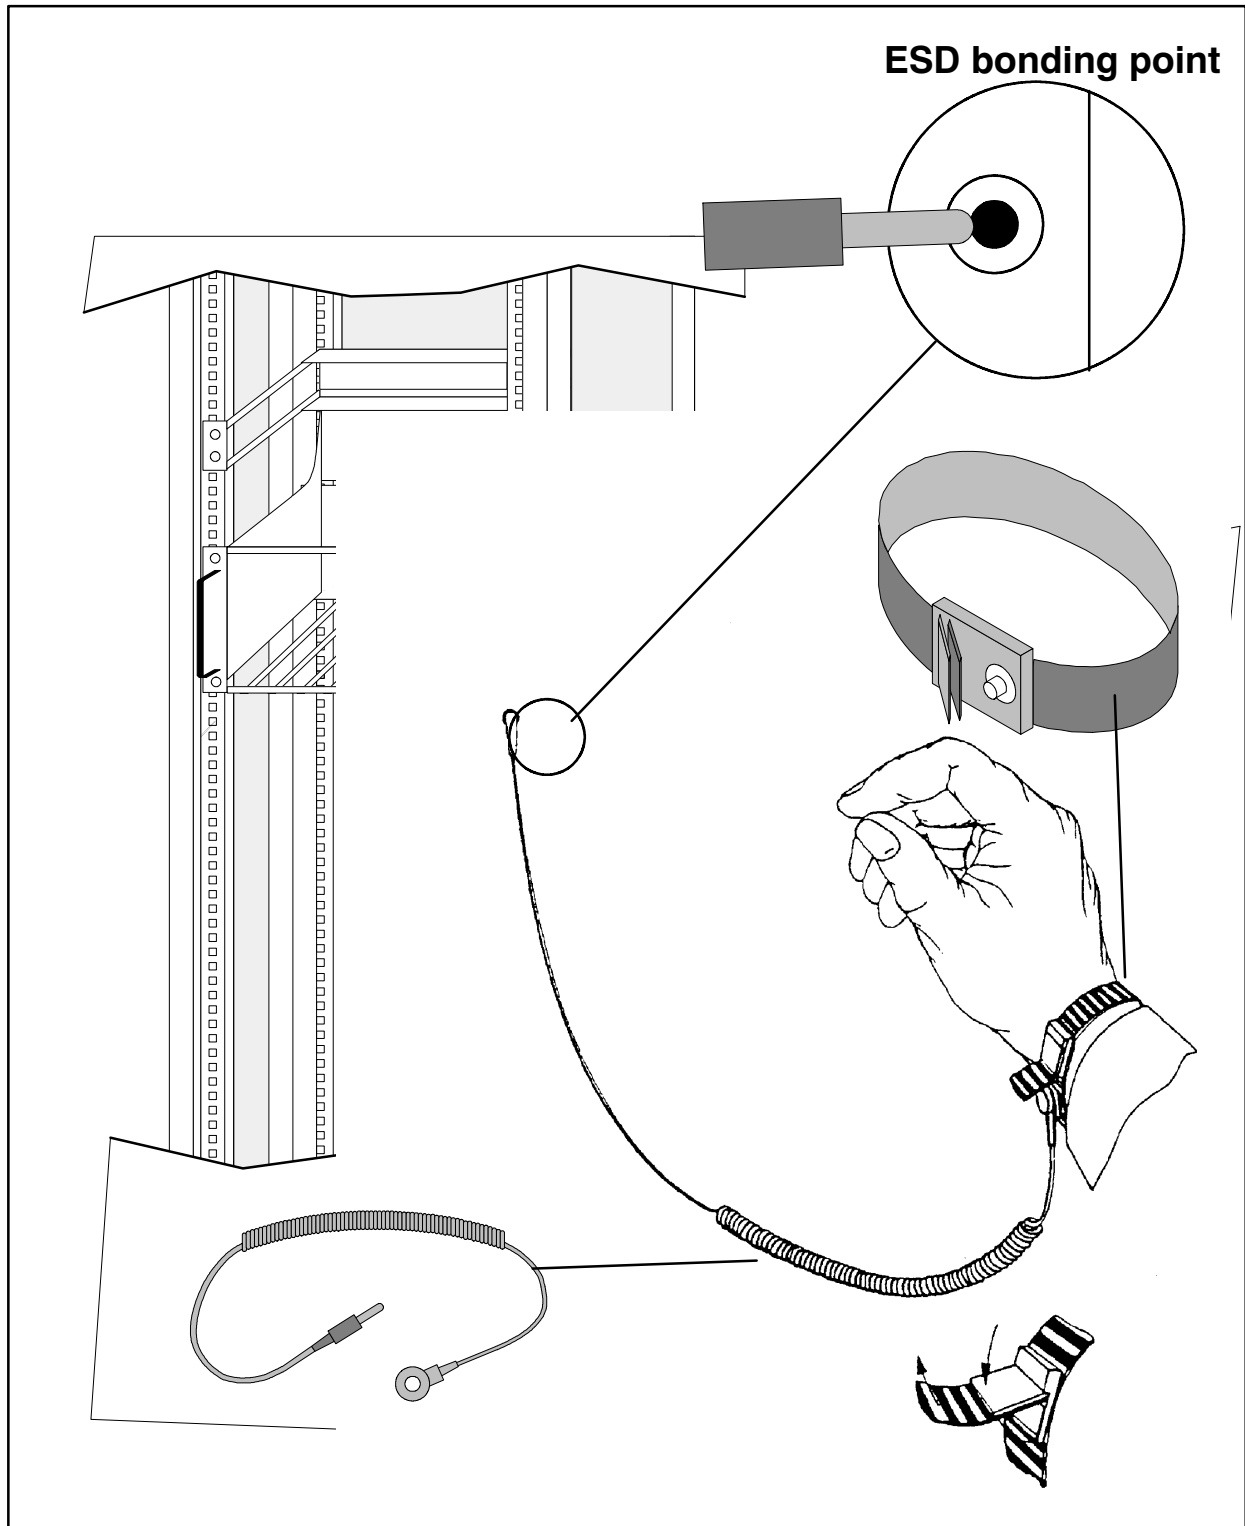

Fig. 0.1-1 Example of conductive wrist strap and ESD connection
- ◆ *When removing covers, cards or connectors always wear wrist straps (Fig. 0.1-1) connected to an electrostatic discharge (ESD) bonding point*